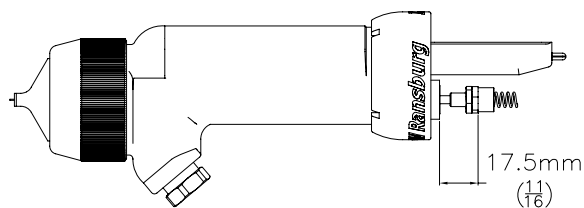

Figure 38: Trigger Adjustment Nut Dimension
18. Adjust the needle shaft spring retainer until the rear of the hexagon is 11/16 inch from the rear surface of the barrel packing chamber (refer to Figure 38).